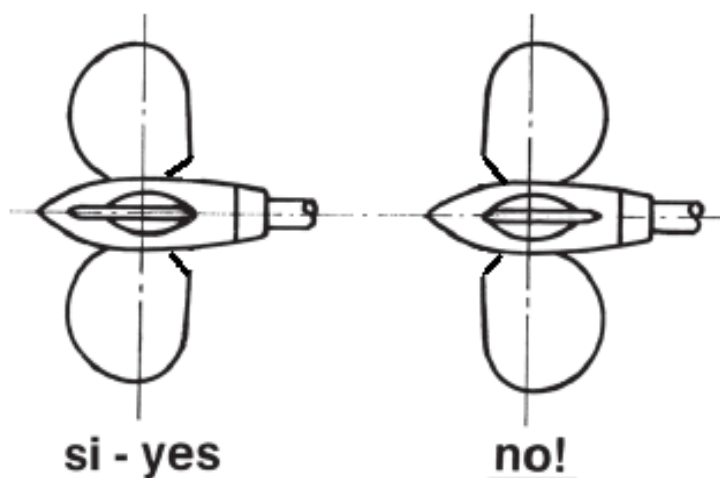

Fig.5
Move the blades into the feathered position, making sure that the rounded trailing edges of the blades are aft as shown in Fig. 5
- *In the feathered position the blades must be perfectly lined up and set like Fig. 5*